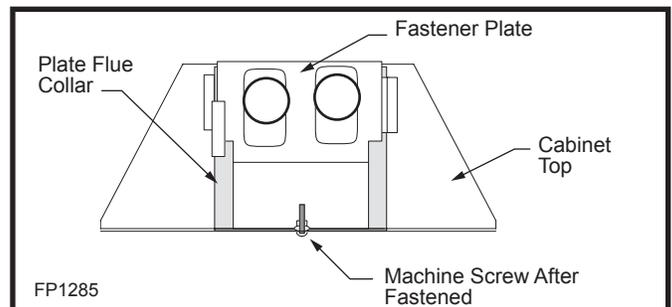

Fig. 17 Use machine screw to bolt fastener plate in place.
4. Put the machine screw back into the fastener plate. Bolt the plate until it is locked. (Fig. 17)
1. Remove two (2) screws at the bottom of the frame. (Fig. 17)